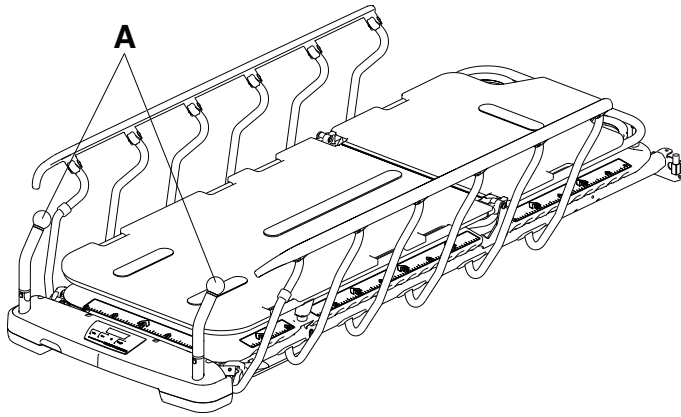

Figure 11 – Positioning the foot end push handles
1. Pivot the handles (A) up from the foot end of the product (Figure 11).